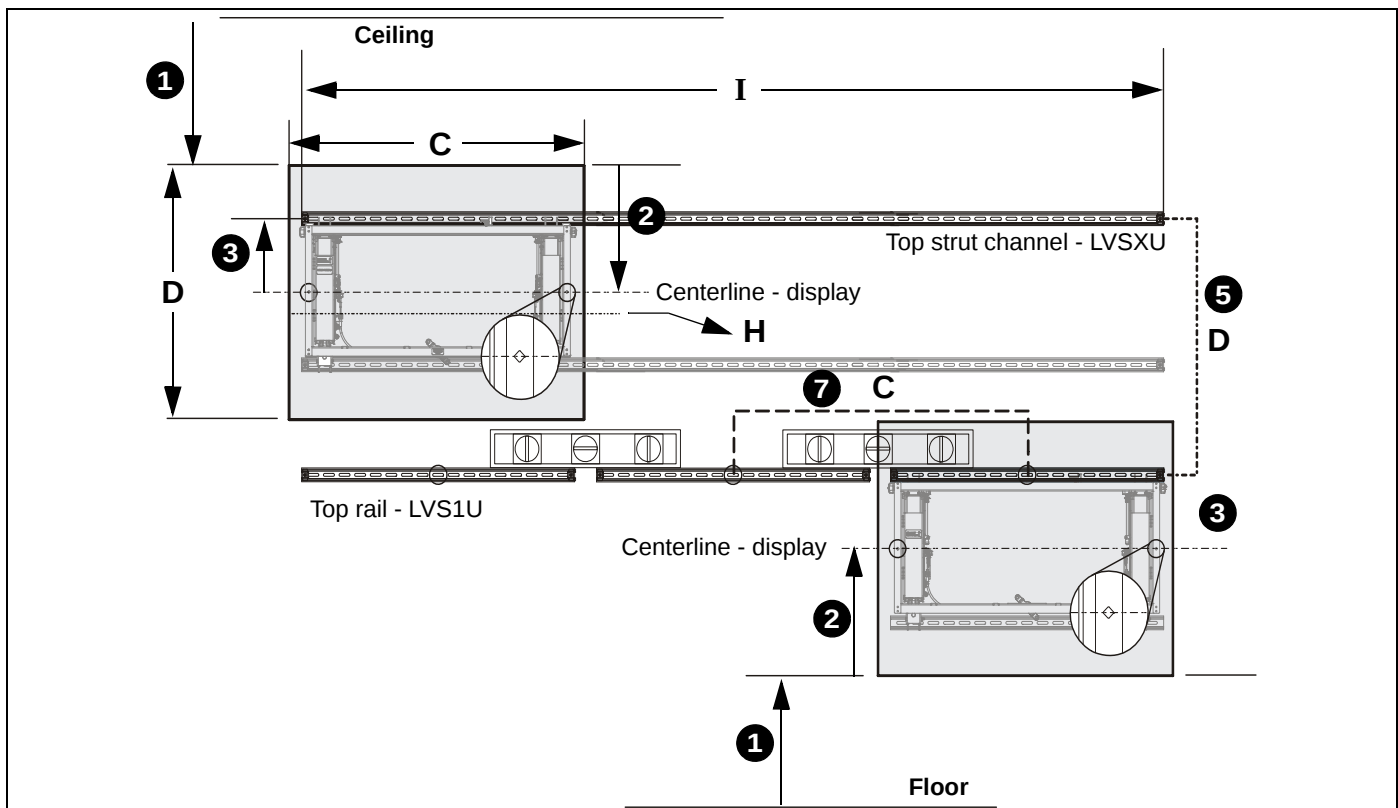

Figure 7
1. Mark distance **(F)** from floor to desired location for **bottom** of display **OR** from ceiling to desired location for **top** of display (if installing top row first). (See Figure 1) and (See Figure 7)
2. Mark distance **(G)** from bottom of display (or top of display) to center line of display. (See Figure 1) and (See Figure 7)
4. Level and attach strut channel/rail (V) using the provided hardware. See **Parts** drawing, (See Figure 7) and (See Table 4).
8. **(LVS1UP only)** Measure over (**C**) (width of display) from center of first installed rail, level and mark location of adjacent rail. (See Figure 1) and (See Figure 7)
10. Attach upper rails (V) using **Fastener Information**. (See Table 4)
11. Measure up from attached rails the distance (**D**) and mark for next row of rails (V). (See Figure 1) and (See Figure 7)
13. Repeat Step 11 for any remaining rows of rails (V).